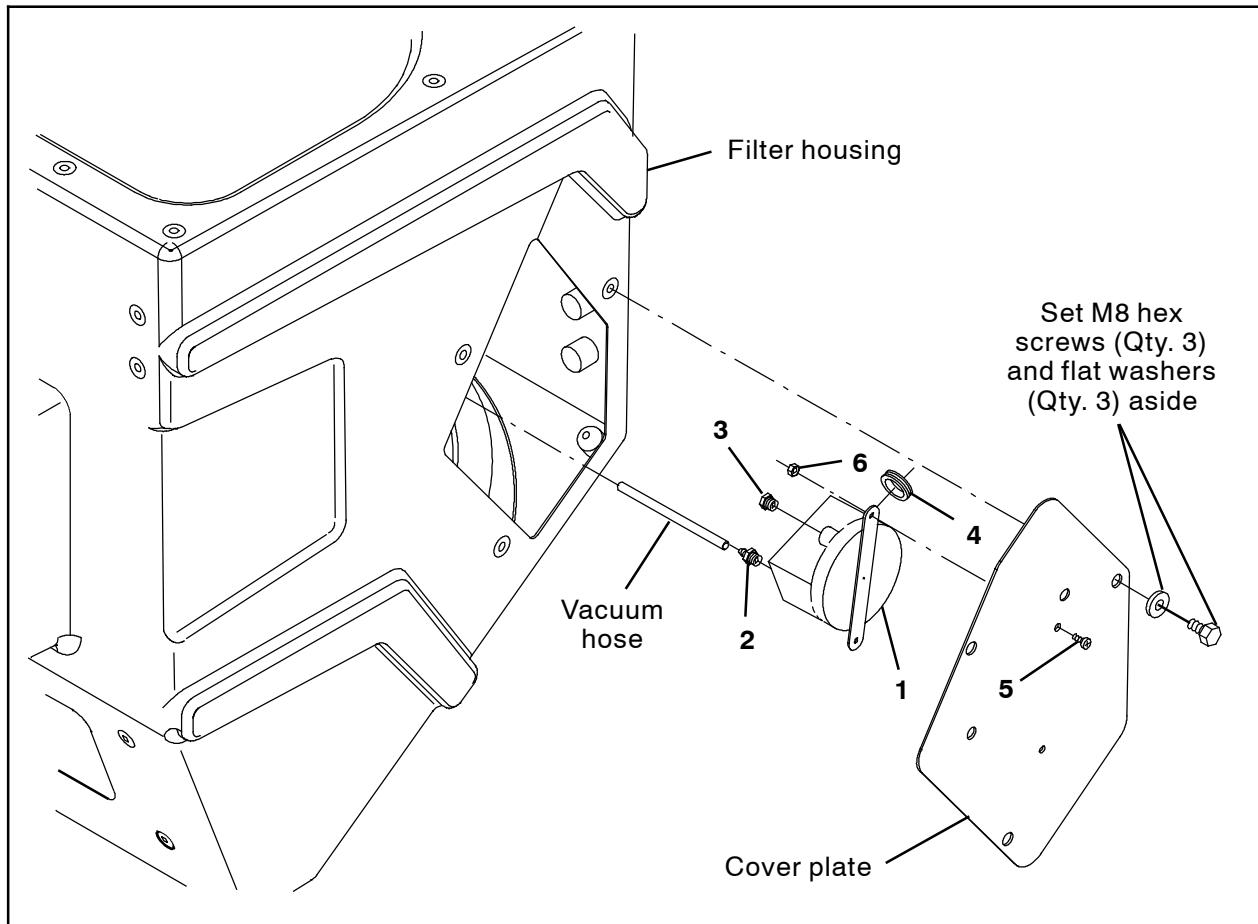

FIG. 1
1. Remove the three M8 hex screws and three flat washers securing the cover plate to the filter housing. Set the three M8 hex screws and three flat washers aside. (Fig. 1)
2. Carefully remove the cover plate from the filter housing. Do not break cable / hose connections when removing the cover plate. (Fig. 1)
4. Disconnect the main wire harness from the existing pressure switch. Note where the main wire harness 13FB/BLACK and 48BA/GRAY wires are connected in the pressure switch. These wires must be connected to the same locations on the new pressure switch (1).
5. Remove the pressure switch from the cover plate. Discard the pressure switch and the hardware that secured the pressure switch to the cover plate. (Fig. 1)
6. Insert the rubber grommet (4) into the new pressure switch (1). (Fig. 1)
7. Install the straight brass fitting (2) and the breather fitting (3) into the pressure switch (1). (Fig. 1)
8. Use two M4 pan screws (5) and two M4 hex nuts (6) to install the pressure switch (1) onto the cover plate. (Fig. 1)
9. Connect the main wire harness 13FB/BLACK and 48BA/GRAY wires to the pressure switch (1).
10. Connect the hoses to the pressure switch (1).
11. Reinstall the cover plate onto the filter housing. (Fig. 1)